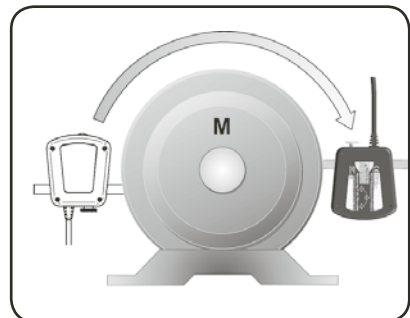

Fig. 18. Rotate to the 3 o'clock position
- c) Follow the circle symbol on the display and rotate the measuring units to the 3 o'clock position (fig. 18).